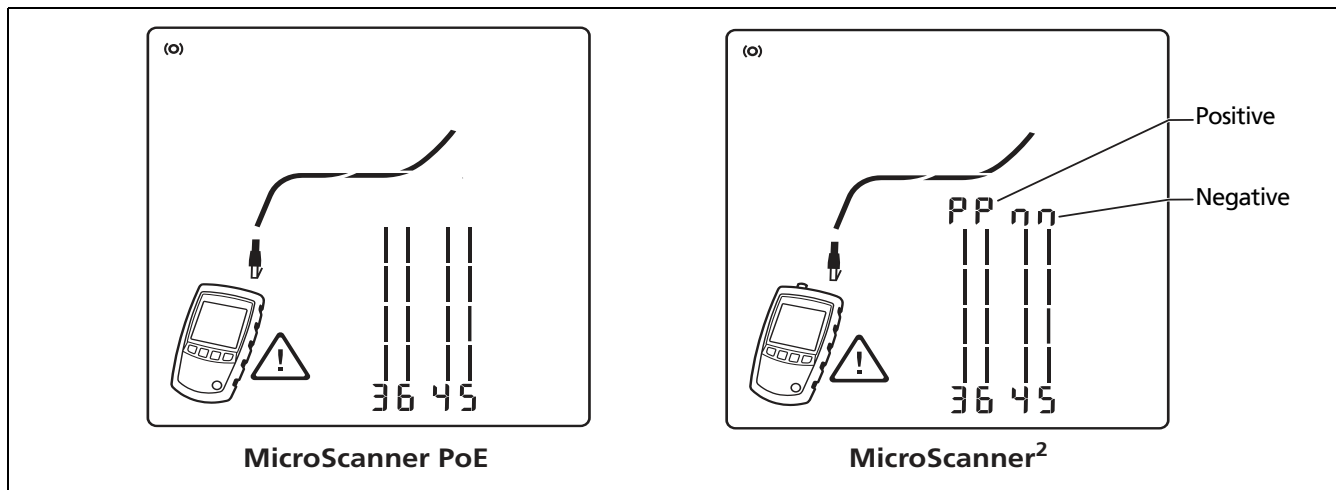

Figure 1. High Voltage Display Examples
- The tester is not intended to be connected to active telephone inputs, systems, or equipment, including ISDN devices. Exposure to the voltages applied by these interfaces may damage the tester and create a potential shock hazard. The tester shows a warning symbol () when it detects high voltage. Figures 1 and 13 show